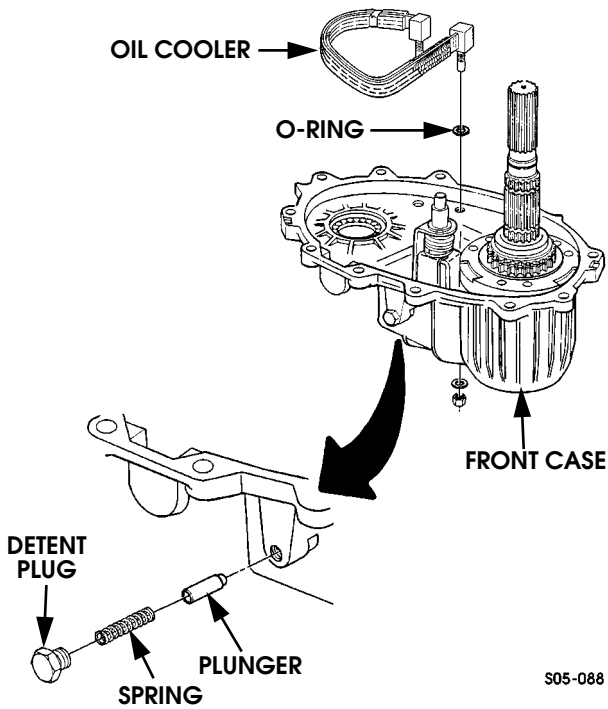

Figure 5-98: Oil Cooler and Detent Plug, Spring, Plunger Removal
- 18. Remove detent plug, spring, and plunger (Figure 5-98).
- 19. Remove oil cooler attaching nuts and washers. Then remove cooler and O-rings (Figure 5-98).